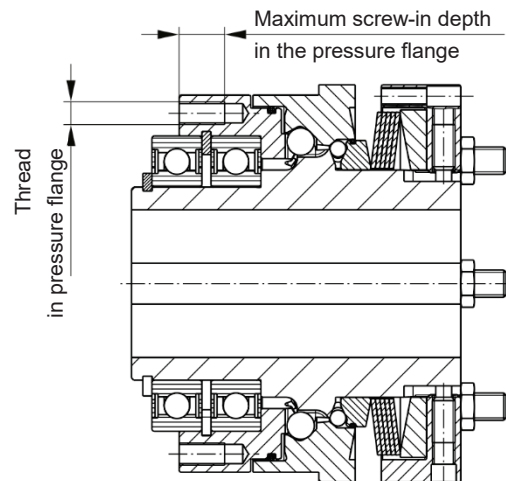

Fig. 6
Please observe the maximum permitted screw-in depth in the pressure flange (4) as well as the connection dimensions "a" and "e" for the output elements, see Figs. 6 or 7 and Table 17.